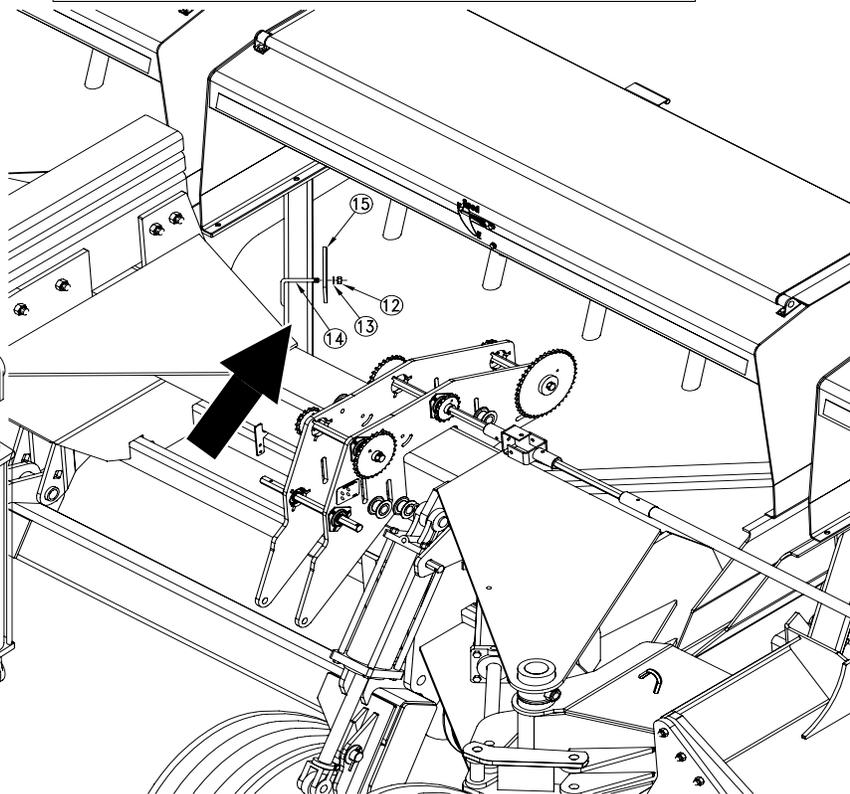

Figure 10
1. Assemble elbow fittings (1) 3/8FNPT 9/16MORB on the marker cylinder (2) ports..
2. Uncoil and attach hoses (3) 288" longs and (4) 252" long to the swivel elbows (1). Notice that the longer hoses go to the rod end of the cylinders.
3. Attach the 90° elbow fittings (5) 9-16MJIC to the sequence valve (6). Attach the sequence valve to the mount bracket (7) with 3/8-16 X 3 1/4 bolts (8) and 3/8-16 PLT (9) lock nuts.
4. Attach the mounting bracket with valve to the left inside the tongue (15) as shown in Figure 10 with u-bolt (12), lock washers (13) and nuts (14).